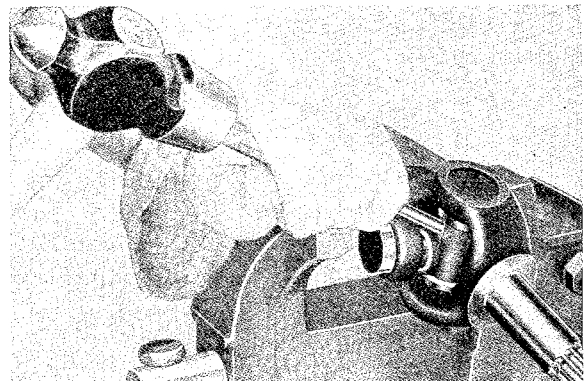

Fig. 4-125. Removal of spider, I
4. Then drive the spider as far as it will go in the opposite direction, see Fig. 4-125.